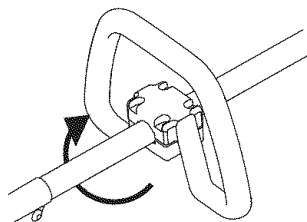

Fig. 1
1. Using a flathead or T-25 screwdriver, loosen the 4 screws on the D-handle enough to loosen it (Fig. 1).
2. Rotate the D-Handle to the upright position on the front side of the shaft housing (Fig. 1).